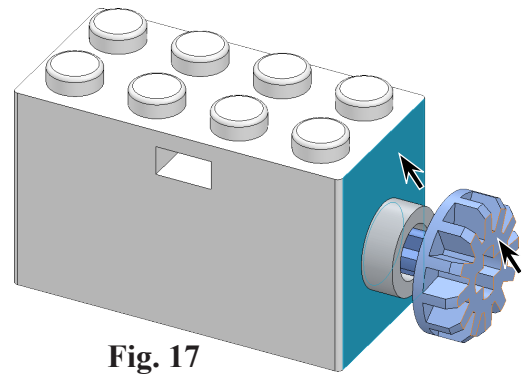

Fig. 17
Step 1. Click **side face of Motor** and **end face of Bevel Gear**, Fig. 17.